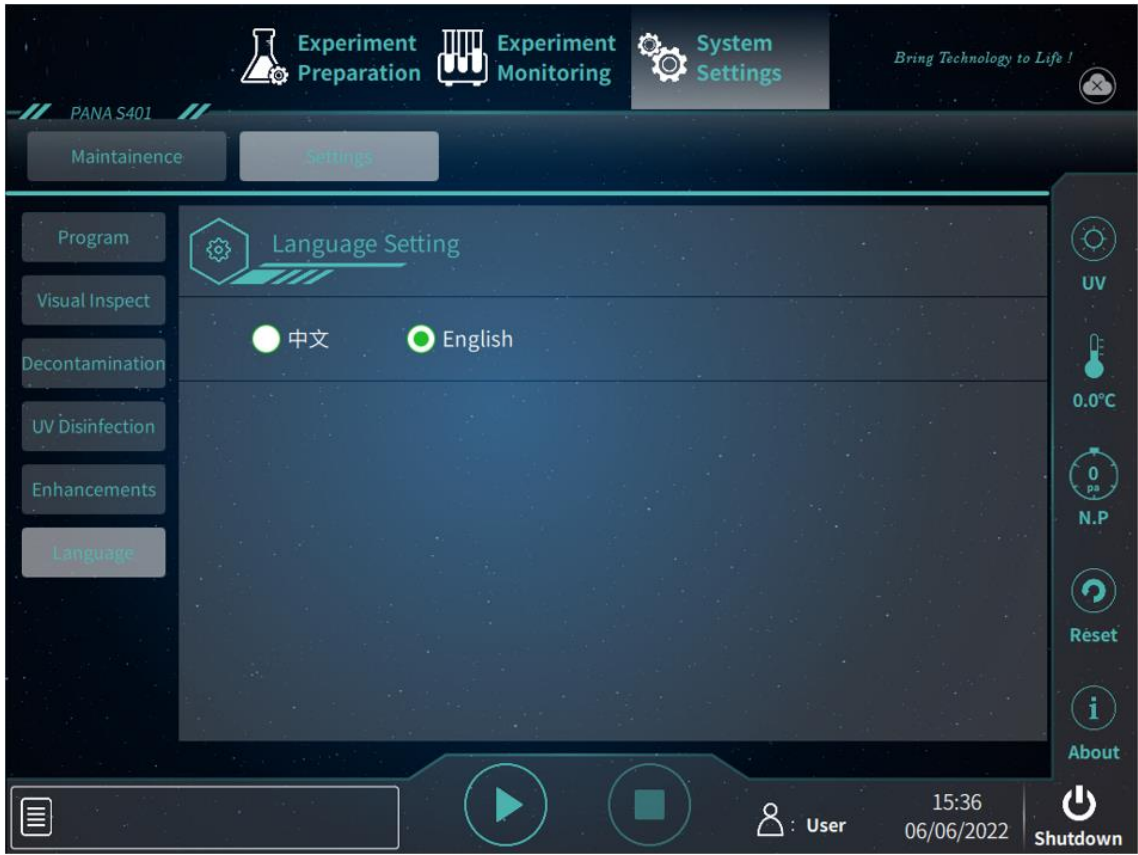

Figure 5-27. System Settings Interface – Settings Tab – Language
- ▶ **< Language >**: Handling System provides Chinese and English two software languages. User could click this function key to select the system language by checking corresponding check box, as shown in figure 5-27.